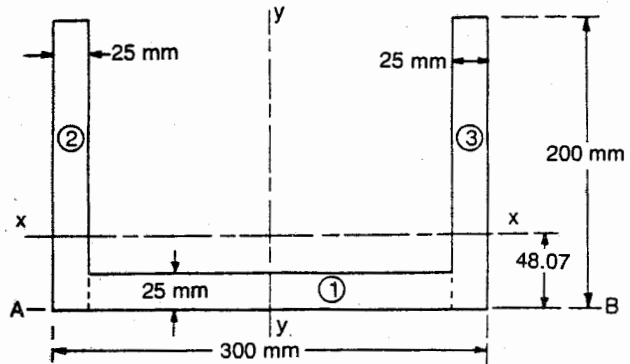

Fig. 6.20
Locate the centroidal axes of the channel section shown in figure 6.20 and calculate the moment of inertia about the axis of X and axis of Y of the section
Total *M. I.* of the section will be summation of *M. I.* of rectangular sections (1) + (2) + (3) as shown in figure 6.20